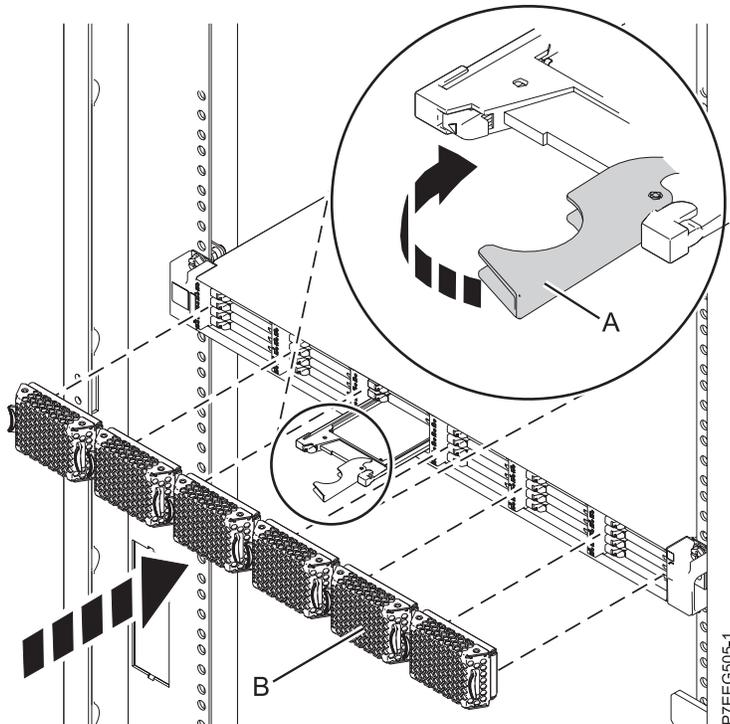

Figure 8. Installing a solid-state drive in the 58/88 PCIe storage enclosure
1. With the handle in the unlocked position, align the solid-state drive with the guide rails in the enclosure. See Figure 8 on page 16.